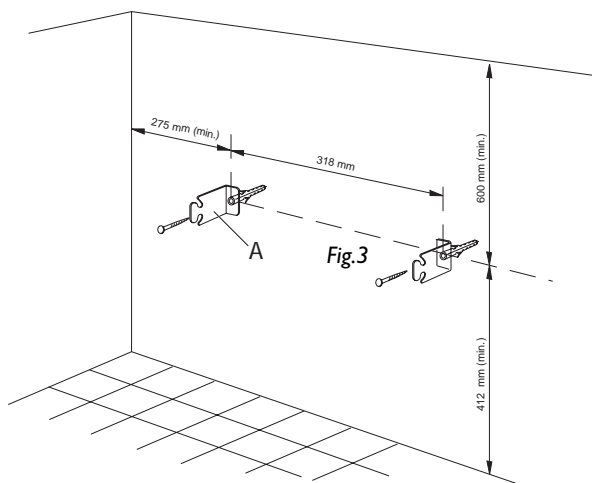

Fig. 3
1. Fix two brackets "A" following carefully the dimensions as indicated in figure 3. Use a 6 mm masonry drill.